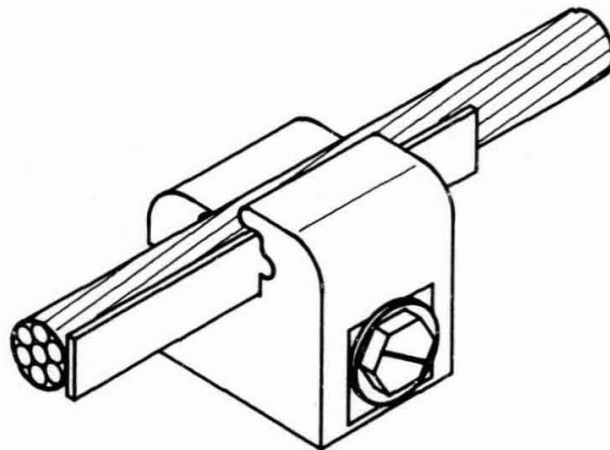

Fig. 1—J Connector—Bonding Ribbon to No. 1/0 Ground Wire Connection
3.02 The J connector and the methods of making connections are illustrated in Fig. 1 and 2.